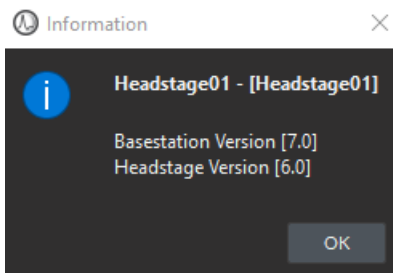

Figure 10.41: Channel(s) configuration window, Wireless Photometry, Info
- d) The **Info** (Fig. 10.41) displays the firmware version of the base-station and the headstage.